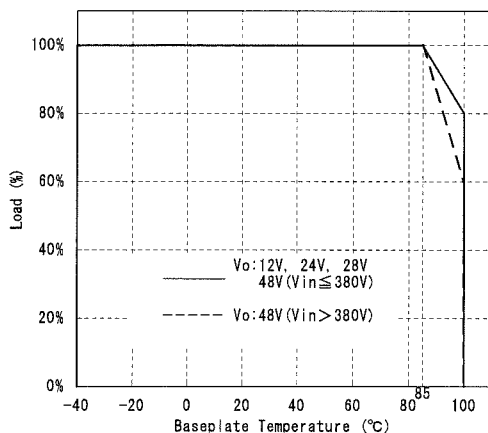

Fig.15-2 Derating curve
2. There is limitation on baseplate temperature range for as shown in fig.15-2.